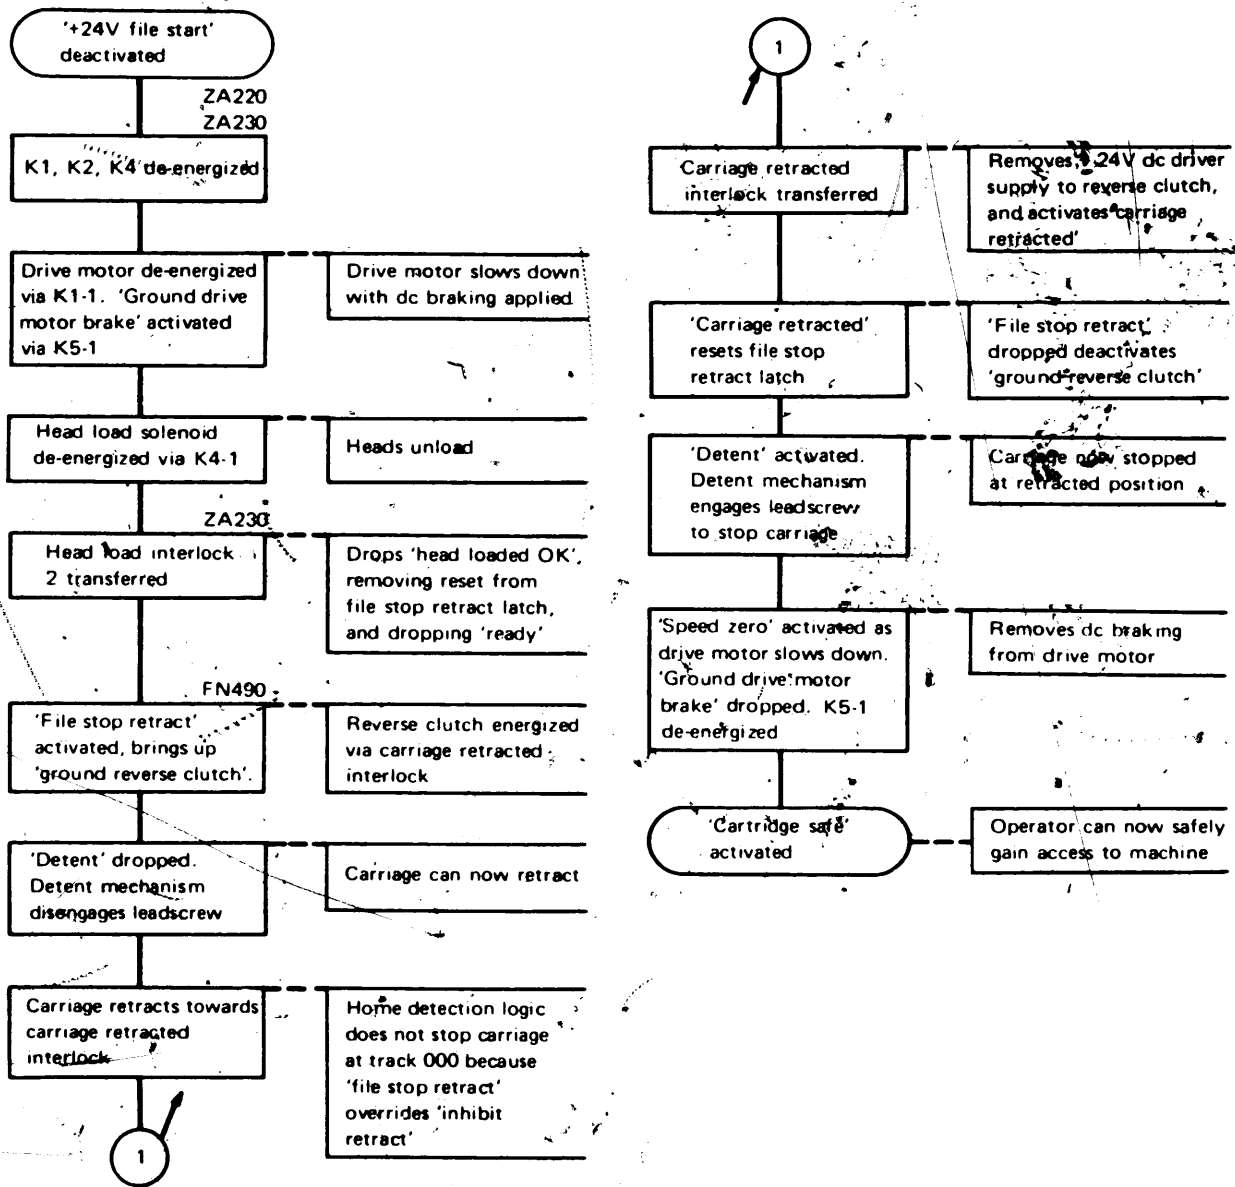

Figure 1-50. Machine Stop Sequence [07511A]
- The machine stop sequence is shown in Figure 1-50. Fr. E04
Note: Circled numbers refer to Write Circuit waveforms (Figures 1-50)